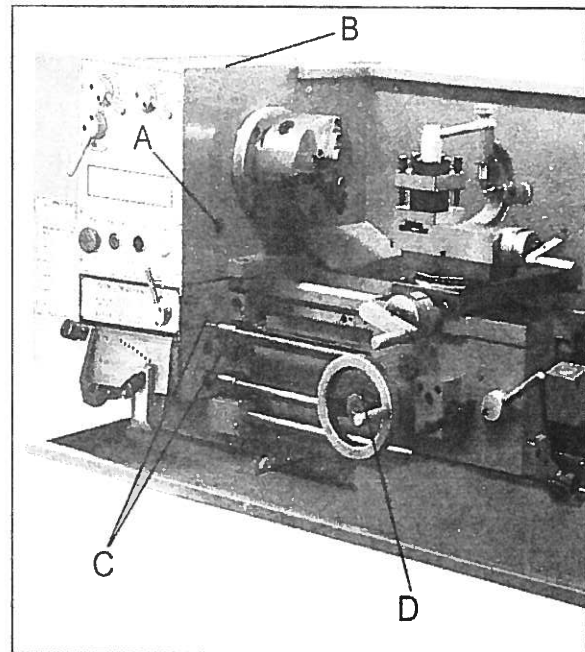
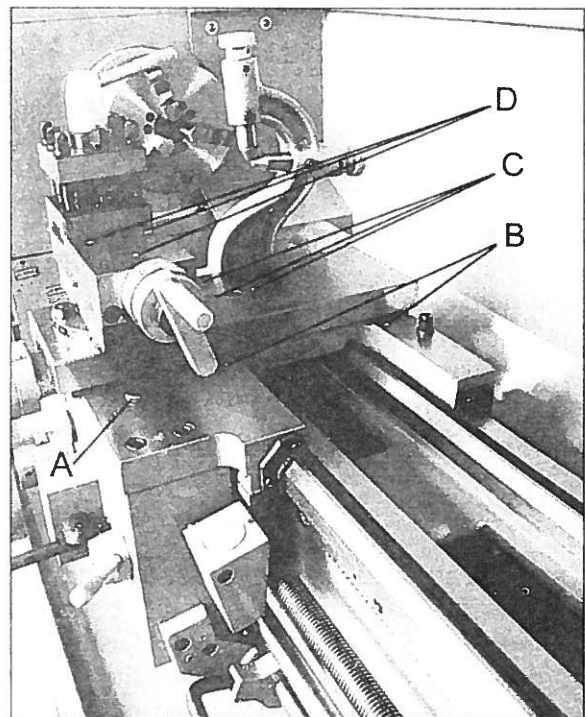

Fig. 3
Fig. 4
1. **Headstock** – Oil must be up to indicator mark in oil sight glass(A, Fig. 3). Top off with Shell Turbo T – 68 or equivalent. Fill by pulling plug(B, Fig. 3). To drain, remove drain plug with 8 mm hex wrench. Drain oil completely and refill after the first three months of operation. Then, Change oil in the headstock annually.
3. **Gearbox** – Lubricate two oil ports(C, Fig. 3) with Shell Turbo T – 68 or equivalent daily.
4. **Apron** – Remove oil cap(A, Fig. 4) on top of apron to fill. To drain, remove drain plug on bottom of apron. Drain oil completely and refill with Shell Turbo. T68 or equivalent after the first three months of operation. Then, change oil annually. Lubricate one oil port(D, Fig. 3) on the apron hand wheel once daily with 20W machine oil.
5. **Cross Slide** – Lubricate three oil ports (C, Fig. 4) with 20W machine oil once daily.
6. **Compound Rest** – Lubricate three oil ports(D, Fig. 4) with 20W machine oil once daily.
7. **Carriage** – Lubricate two oil ports(B, Fig. 4) with 20W machine oil once daily.